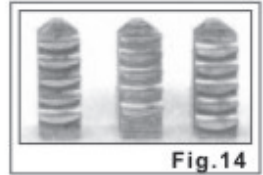

Fig.14
The threadsegments of the jaws are progressively 'stepped' as shown in Fig 14. they are also numbered 1 to 3. this is to take into account the lead of the screw thread with the chuck. It is therefore necessary to assemble the jaws in the correct order.
- Place them as shown in the Fig.14, and assemble in the same order, clockwise in the slots in the chuck, turning the chuck key as you insert them. Close the jaws fully and check to ensure they all meet at the centre. If a jaw is out, open the jaws fully, and retain pressure on the jaw in question whilst turning the chuck key, until it snaps down into position. Re-check to ensure all jaws meet at the centre.